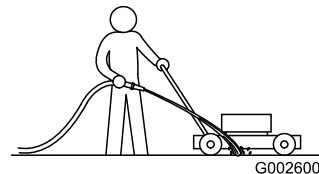

Figure 41
1. With the engine running on a flat paved surface, spray a stream of water in front of the **right** rear wheel (Figure 41).